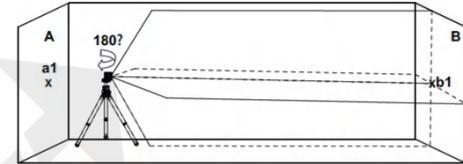

Fig.2
5. Turn the laser 180° towards wall B, and mark on the wall the center of the cross lines as b1 (see figure 2).